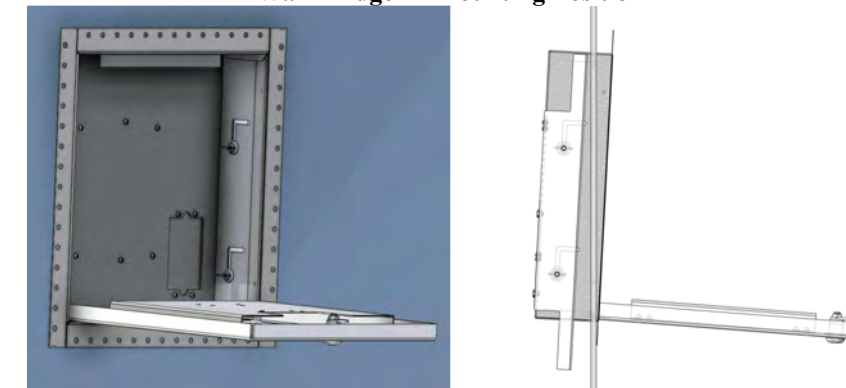

Figure 1 - Installation Into Wall/Ceiling
Step 1 - Cut a 13" horizontal x 13.4" vertical opening in the "hard lid" ceiling or wall (special cutting tools may be required – ref. Figure 1).
Step 3 – Place the (2) two wall bridges in the mounting position by loosening the (4) four wing nuts inside of the enclosure. The position of the wall bridges will look like the image in Figure 3. Place the enclosure in to the hole that was cut in Figure 1. Angle the enclosure at 10° with the wall